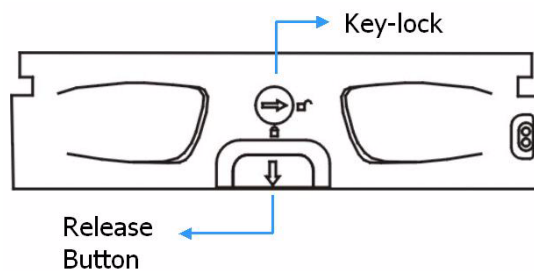

Fig. 6.8 Front View of an Individual Drive Tray
2. Open the front flap: Once the drive tray has been identified, push the release button at the drive bezel. (See *Figure 6.8*) The front bezel will automatically be lifted and the drive tray should be easily dislodged from the chassis.